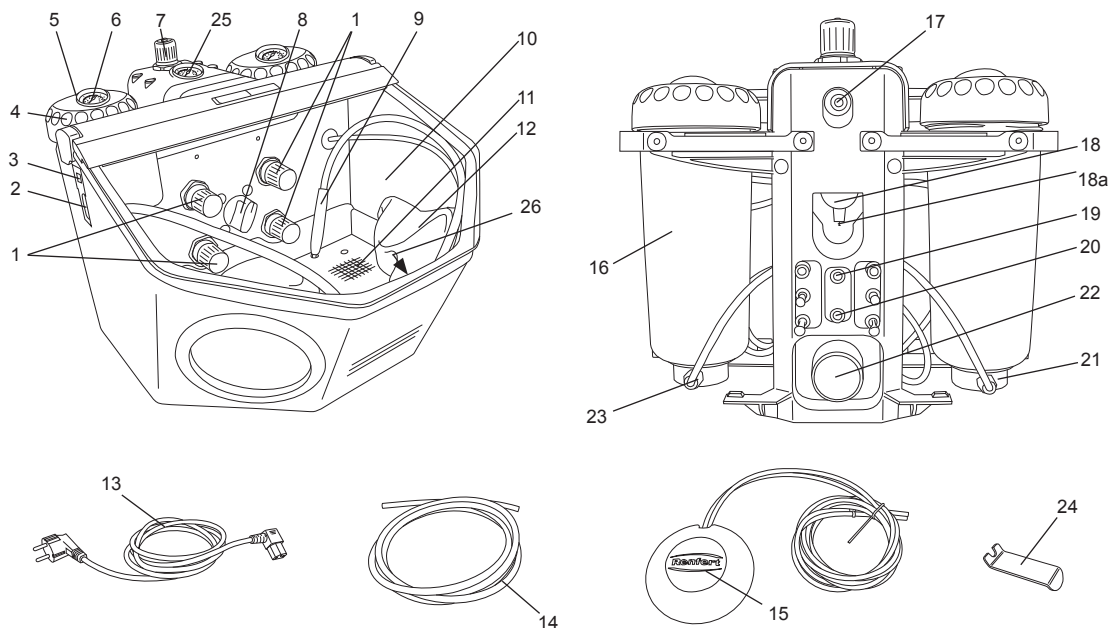

fig. 1
- Push the compressed air tube (14) onto the tube connection point (17) as far as it will go. In doing so there will be a slight resistance to overcome.
- Check whether the pressure is at the required level (see tech. data). Display will be shown on the manometer (25, fig. 1).
The air nozzle (26, fig.1) can be used to remove sandblasting residues and dust.
- Switch the illumination on (3).
- Select the blasting tank at the selection switch (8, fig.1).